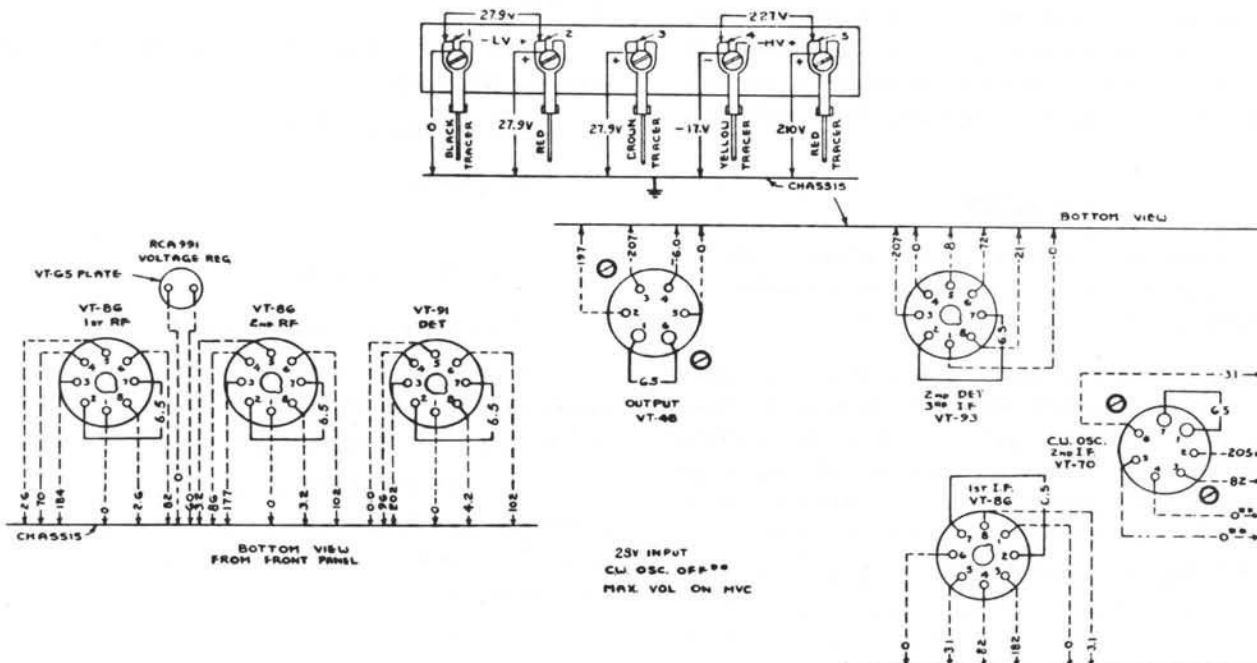

Figure 16—Radio Receiver BC-348-(*)
(1) CHECK OF DYNAMOTOR VOLTAGES.—When all signals on all bands are weak or no signals are heard when known to be present, follow the procedure shown in the chart. The voltages checked at the dynamotor terminal board should closely approximate the values shown in figure 16. Conditions of measurement are as follows:
(2) TUBE CHECK.—If the voltages at the dynamotor terminal board approximate the values given, proceed to check all tubes for emission and characteristics or replace all tubes with those of known average characteristics.
(3) CHECK OF SOCKET VOLTAGES.—If tubes check satisfactorily, or if, after replacing with tubes known to be good, the sensitivity is still low, proceed to check all tube socket voltages with Test Set I-56-A as outlined in paragraph 14f. The average socket voltages are given in figure 16.
(4) CHECK CIRCUIT WIRING AND COMPONENTS.—If the tube socket voltages do not approximate the values shown in figure 16, check the associated circuits and components for grounds, shorts and similar defects.
(5) TEST OF AUDIO-FREQUENCY AMPLIFIER.—Having checked all socket voltages and found the values to be correct, proceed to the test of the audio frequency amplifier. This can be checked by capacitively coupling a 400-cycle voltage of approximately 2 volts rms between ground and the detector diode socket prong using a capacitor of 0.5 mfd. As an alternative, a modulated 915-kc signal of 2 volts may be coupled to this point and ground. Proper functioning of the audio amplifier will be indicated by an output well over 10 milliwatts for the 2-volt audio input or approximately 1 milliwatt output for 915-kc input. Check circuits, wiring and components if this order of response is not obtained. The audio signal (modulated) from the I-72 signal generator, approximately 1.2 volts, may be used. An output of approximately 7.5 milliwatts (1.5 volt with a 300 ohm load) will be obtained.
(6) TEST OF I-F AMPLIFIER.—Following a satisfactory test of the audio amplifier, check the inter-